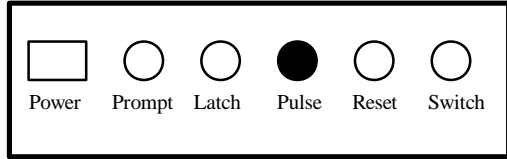

Figure 4
2. The **PULSE** jack provides an end-of-count switch closure for a voice command, a turntable advancement, or other switch-activated prompt. If an end-of-count pulse is desired, connect the appropriate device to the **PULSE** jack (Figure 4).